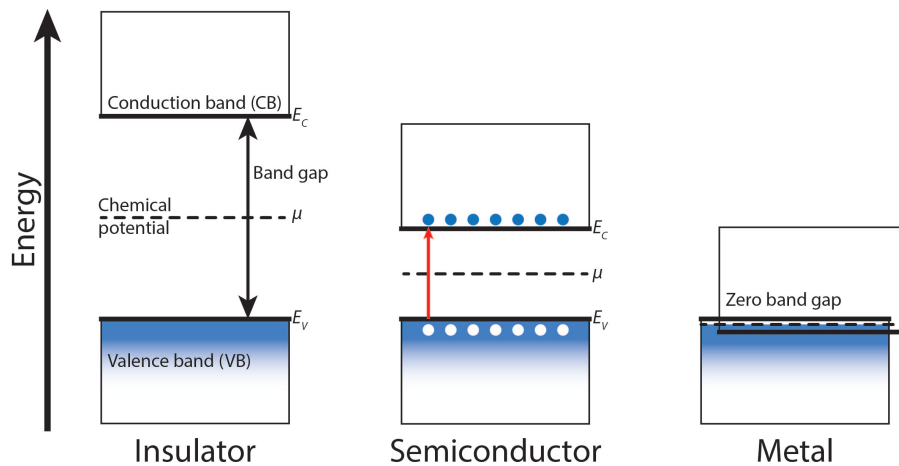

Figure 1: Intrinsic materials
In solids, the allowed electron energies are no longer given by discrete states. Due to the influence of the large number of ions composing the solids the allowed energies are grouped into bands separated by gaps. The defining property of a **metal** is the availability of states close to the energy of the chemical potential μ (see figure 1). In **insulators** μ is situated right in the middle of a large gap. This means that at low temperatures the band below the gap is completely filled, while the band above the gap is empty. No current can flow, since the electrons in the lower band have no states close in energy (they are “stuck”). In a **semiconductor** the chemical potential is located in the middle of a gap, but the gap is small enough to allow for the thermal excitation of some electrons from the lower band (the **valence band**) to the higher band (**conduction band**) at room temperature. The electron is now missing in the valence band. This “missing electron” is called a **hole** and behaves just like an electron with positive charge (this is a rough simplification, but sufficient for our purposes). Take a look at figure (1). Since the number of electrons in the intrinsic (pure) semiconductor is exactly equal the number of holes, in our simplified model the **chemical potential is located in the middle of the bandgap for all temperatures**. The occupation probability in the conduction band is given by the Fermi-Dirac distribution